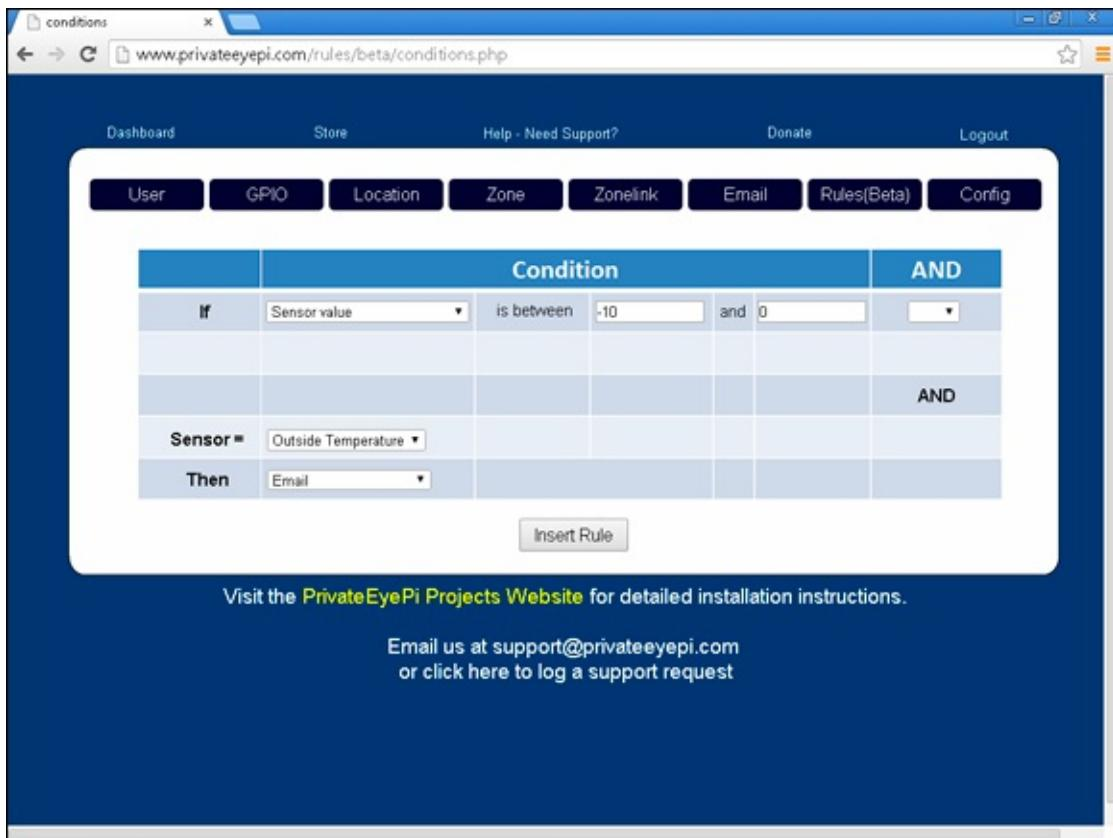

Figure 10-18: Define rules in PrivateEyePi.
2. **Click the Add button and configure a rule and action as shown in Figure 10-18 .**